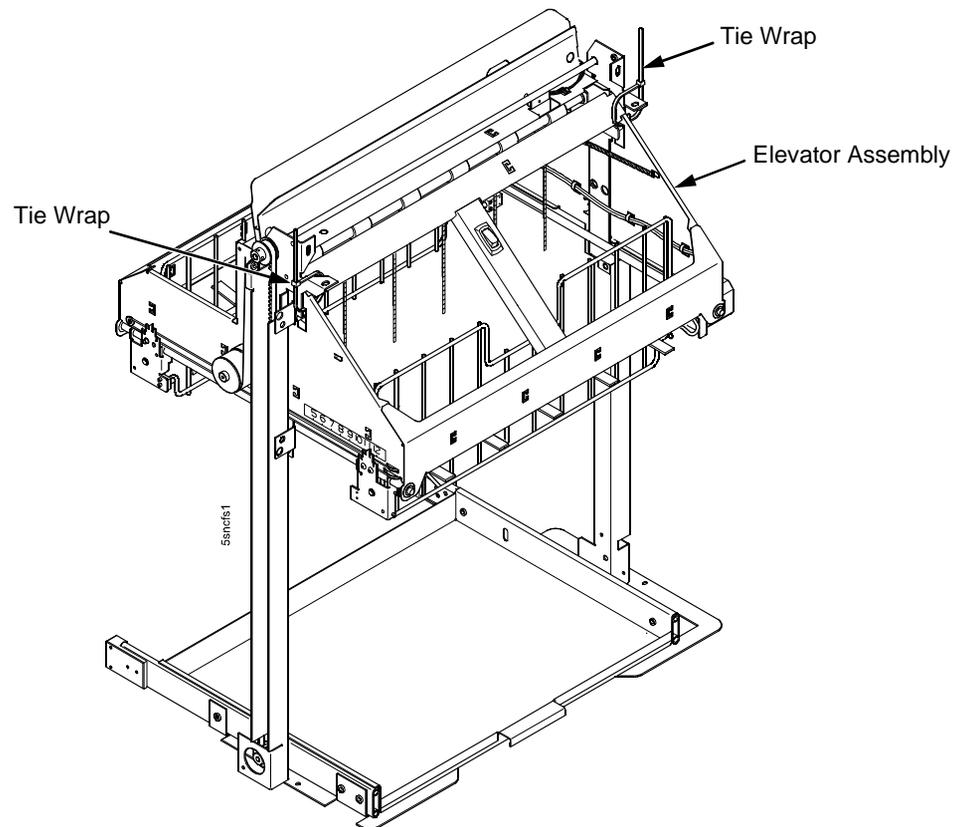

Figure 99. Securing the Elevator Assembly
2. Raise the elevator assembly to its highest position and secure it to the vertical rails using tie wraps or string. (Figure 99.)
2. Raise the elevator assembly to its highest position and secure it to the vertical rails using tie wraps or string. (Figure 99, page 580.)